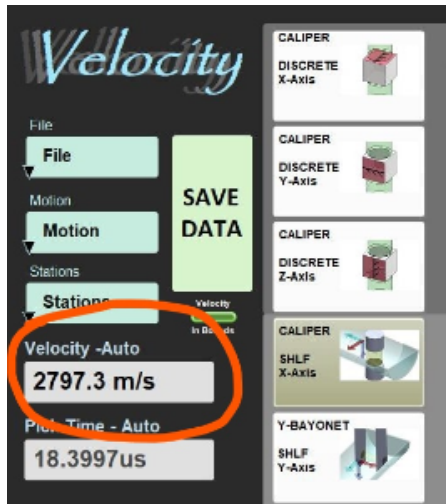
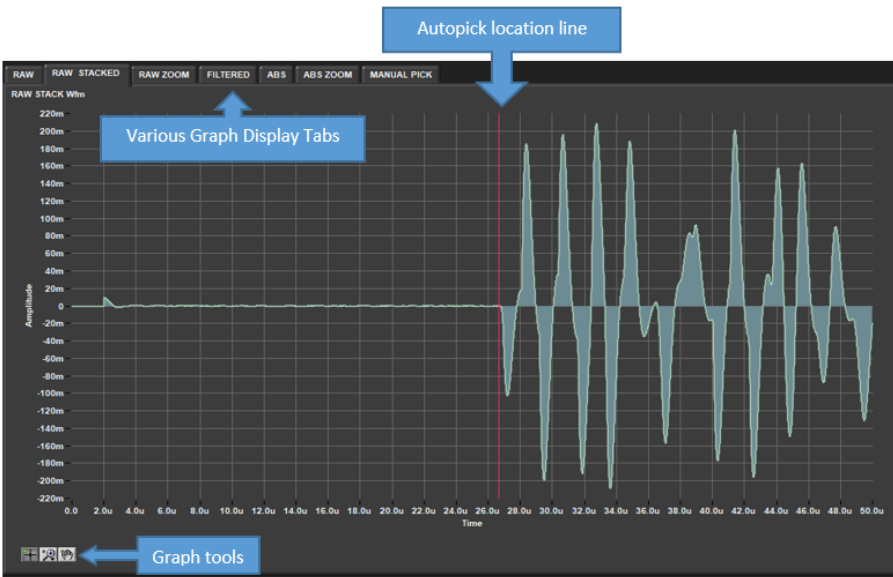

Figure 6. Data display on Velocity-Auto box.
Figure 8. Raw Stacked signal display with red line indicating auto-pick location.
3. The program continually updates the velocity calculation and displays the value (Average of stack set) in the **Velocity-Auto** box (Figure 6).
The program will automatically calculate the velocity from its auto-picked first arrival wave, display the value (Figure 6) and the auto-pick location line (Figure 8). If either of these are not expected results, follow steps A, B and C.
The signal graph has several display options, all accessible by clicking on different tabs at the top. To zoom on a graph, pause the program and click on the magnifying glass in the "Graph Tools" box, Figure 8.
1. Go to **RAW STACKED** tab (Figure 8): Here you see the stacked measurements display. If the red line appears near the first significant deviation from 0 on the Y-Axis, then the value is likely reliable. However, if the 'auto-pick location' is off, or the velocities don't seem right, you may need to adjust the **Threshold**, which corresponds to amplitude on the Y-Axis. It will move the 'auto-pick' location.